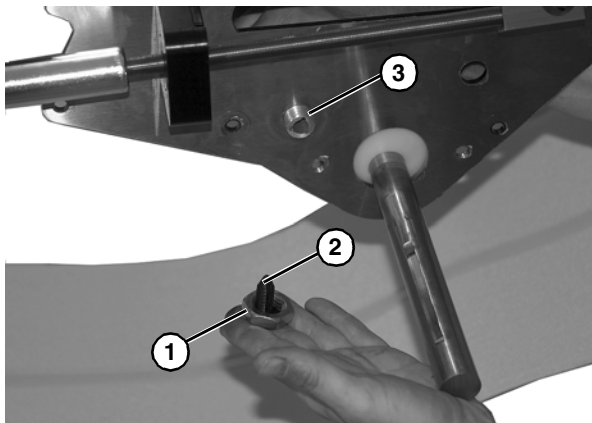

Figure 93
10. Remove nut (Figure 93, item 1), and plug (Figure 93, item 2) from crosstube (Figure 93, item 3).